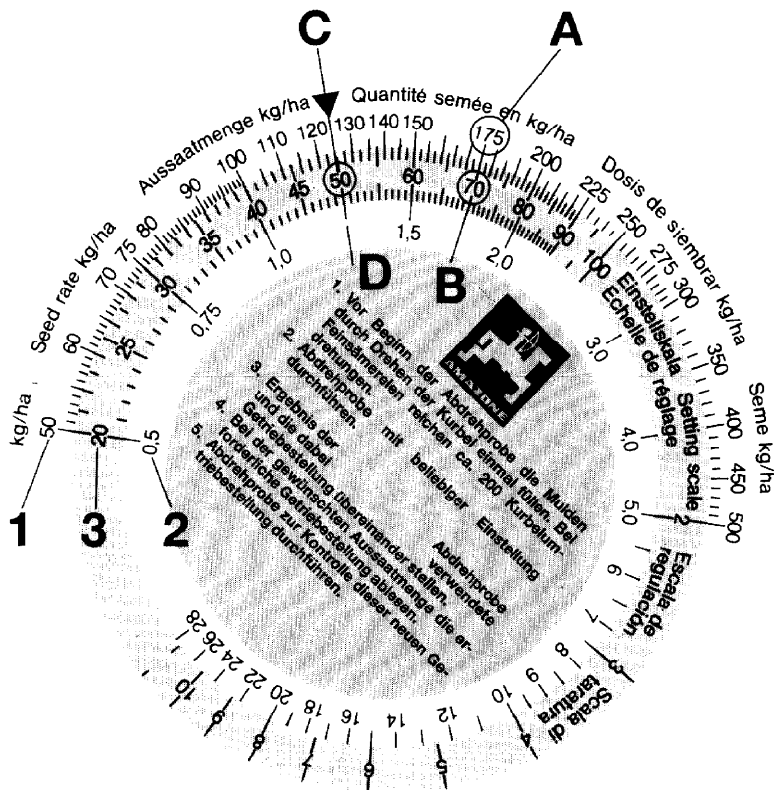

Fig. 3
Determination of the gearbox scale setting No. with the aid of the seed rate calculation disc rule (Fig. 3)
If the first calibration test does not bring the desired seed rate, the new gearbox scale lever setting for the correct seed rate can simply be determined by the enclosed seed rate calculation disc rule (Fig. 3). This disc rule consists of 3 scales: One outer white scale (Fig. 3/1) for all seed rates above 30 kg/ha and an inner white scale (Fig. 3/2) for all seed rates below 30 kg/ha. On the middle coloured scale (Fig. 3/3) the gearbox lever scale setting No.'s from 1 to 100 are indicated:
- Now turn the inner disc until the obtained seed rate of “175 kg/ha” (Fig. 3/A) is in line with the related actual gearbox lever setting No. of “70” (Fig. 3/B).
- Now read off the disc rule the necessary gear box lever setting No. for the required seed rate of 125 kg/ha (Fig. 3/C). In our example the correct setting No. is “50” (Fig. 3/D).